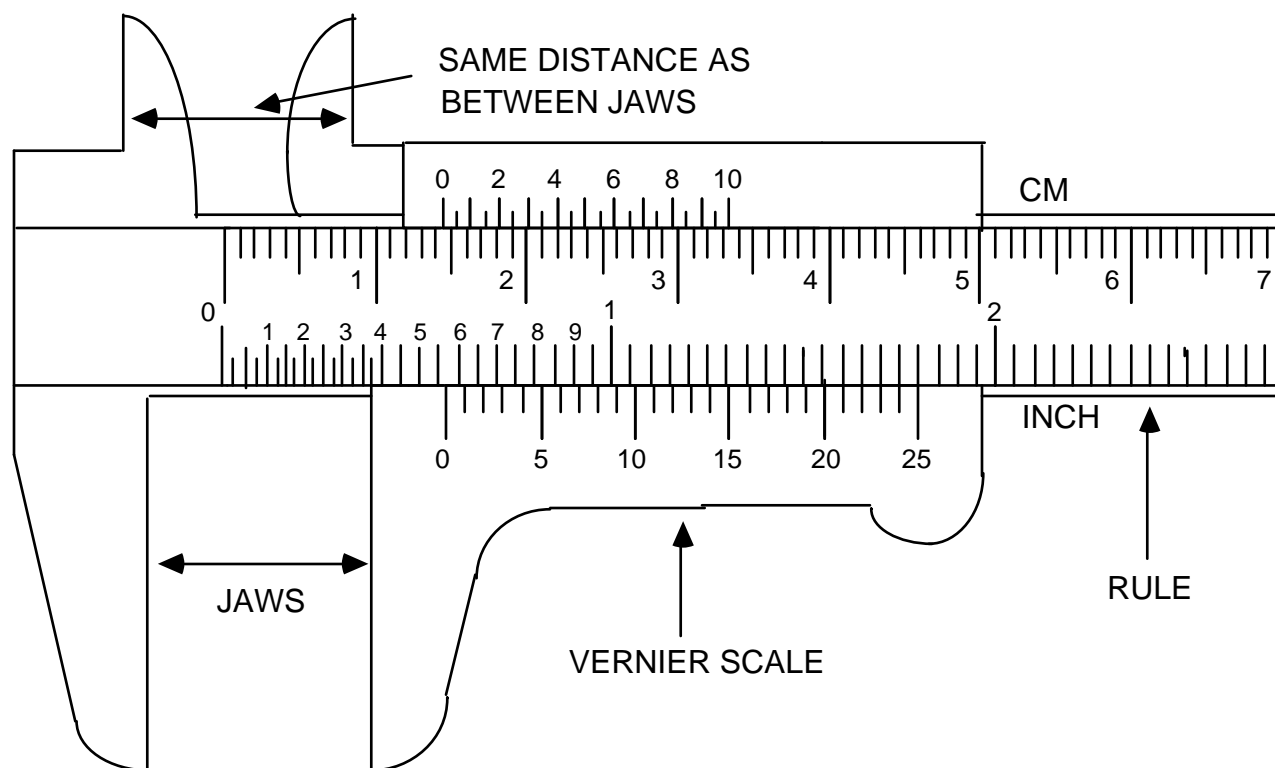

Figure 1: Vernier Caliper
Looking at the vernier caliper in Fig. 1, notice that while the units on the rule portion are similar to those on an ordinary metric ruler, the gradations on the vernier scale are slightly different. The number of vernier gradations is always one more than the number on rule for the same distance. The line on the vernier which is aligned with one on the rule tells us the fraction of the units on the rule.
- (a) record the numbers which correspond to the last line on the rule which falls before the index line (marked as 0) on the vernier scale. In Fig 1, this would be 1.4 cm since the index line falls after the 1.4 cm line and before the 1.5 cm line.
- (b) count to the right on the vernier scale until you reach a vernier line which lines up with a line on the rule and record the number of this vernier line as your last digit. In Fig 1, it is the vernier line marked 4 (rather than the 4.5 line, say) which is aligned with one on the rule. The full vernier scale corresponds to one small division on the main scale, that is, .1 mm, so the vernier tells us to add  $.4 * .1 = .04\text{cm}$ , so the whole distance is 1.440 cm.
*Alas, the inch scale vernier of Fig 1 is not marked correctly; the correct corresponding reading would be .567 inches, so the inch vernier should have lined up at about 17 instead of 25: .55 inches + .017inches).*